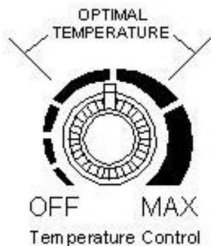

Figure 1
1. Align the electrical pins of the Base with the electrical pinholes of the Handle. Ensure the Locking Lever is in the raised/angled position. (Fig. 1)
2. Slide the Handle until it locks into position on the Base. (Fig. 1)
**NOTE:** The optimal cooking temperature is the 1/3 point to 2/3 point on dial (see Figure 1). High temperature levels may cause discoloration or shorten the life of the non-stick surface.